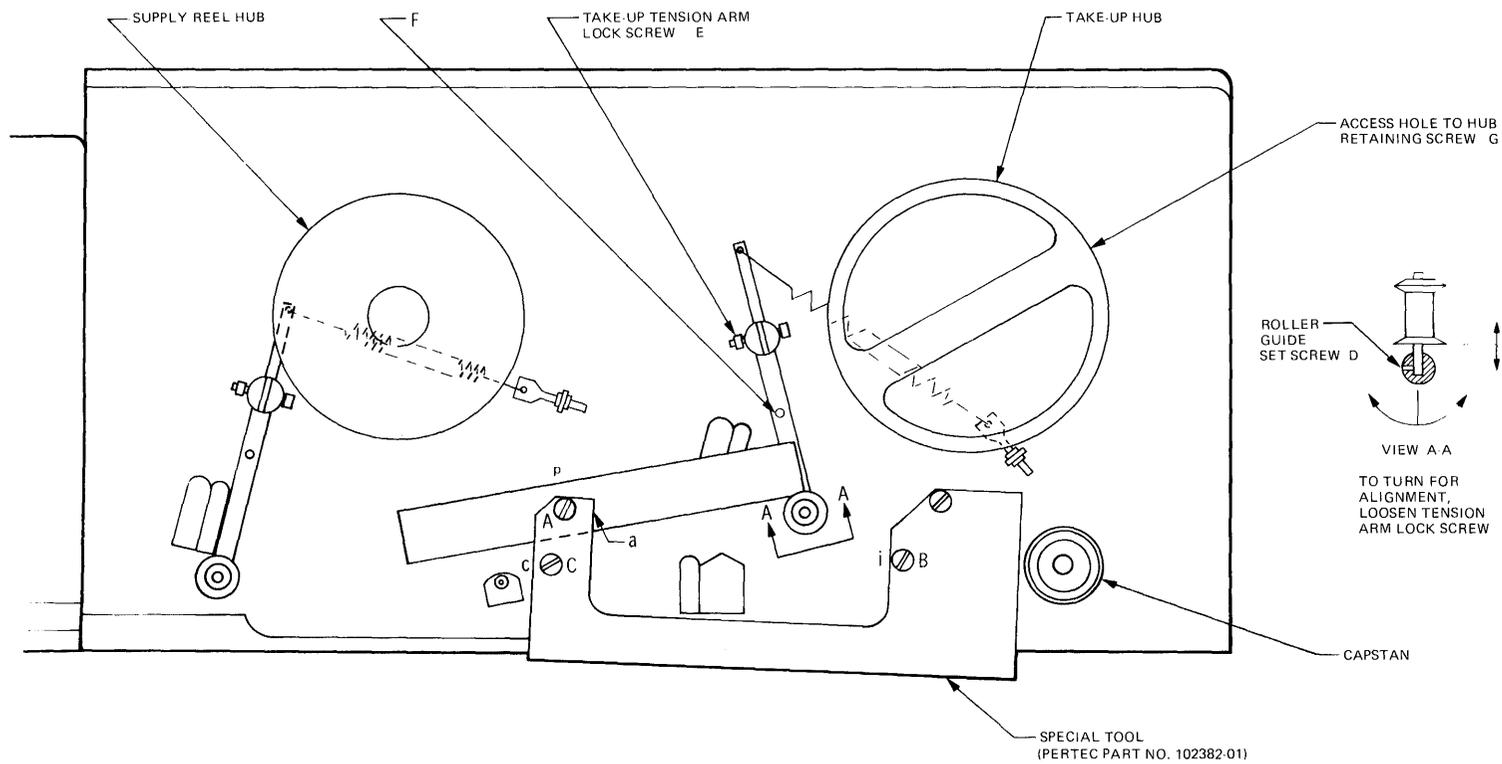

Figure 6-6. Take-up Reel Tension Arm Guide Roller Adjustments
Refer to the stamped clearance hole lettering on the alignment tool and Figure 6-6 in conjunction with the following procedures.
- (1) With crossbar in place, loosen take-up arm guide roller set screw 'D', located on the take-up tension arm. See illustration at extreme right of Figure 6-6.
- (2) Center tape traction area of guide roller on crossbar when guide roller is positioned at the midpoint of its operating arc.
- (3) When height is established, tighten the take-up guide roller set-screw 'D'.
- (4) Remove crossbar from U-frame.
- (1) Engage an Allen wrench in the head of Allen head lock-screw 'E' (Figure 6-6). With an open end wrench of appropriate size, slightly back off tension arm lock-nut.
- (2) Insert a suitable rod or tool into through-hole 'F'.
- (3) Rotate tension arm until the face of guide roller and the contacting surface of the crossbar are parallel.
- (4) Test by sighting between the two surfaces. Observe a minimum amount of light between the parallel surfaces.
- (5) Tighten tension arm lock-screw 'E' to a torque setting of 20 inch-pounds, nominal.